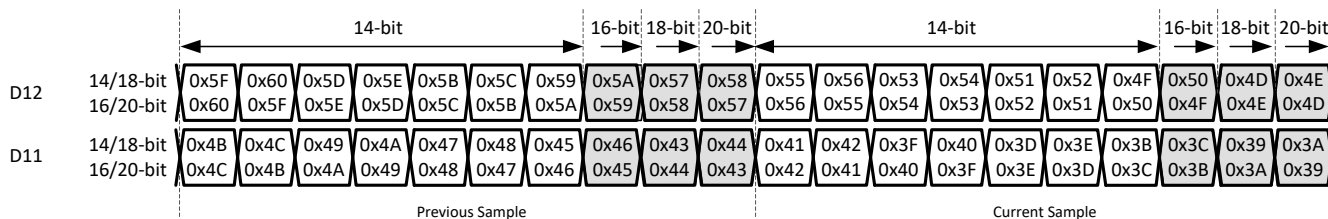

图 8-39. 2-wire output bit mapper
**2-wire mode:** in this mode, both the current and the previous sample have to be used in the address space as shown in 图 8-39. The address order is different for 14/18-bit and 16/20-bit. Note: there are unused addresses between samples for resolution less than 20-bit (grey back ground), which can be skipped if not used.